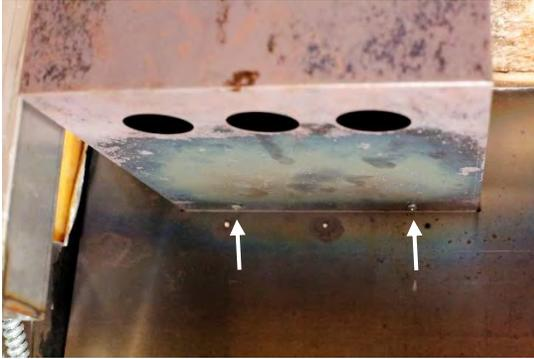

Figure 4
3. Remove the four screws holding the flue to the firebox. One on each side of the fryer as shown in Figure 3. Two underneath the flue as shown in Figure 4.